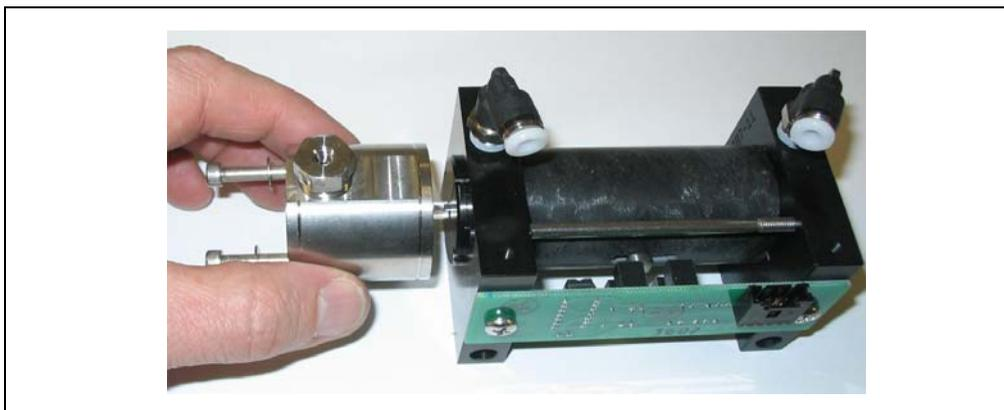

Figure 5-9. Removing the Pump Head
2. Slide the pump head straight off the pump (see Figure 5-9).